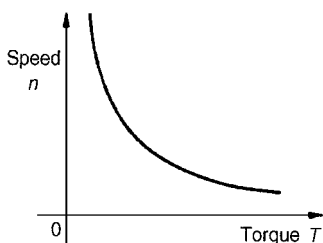

Figure 22.23
- (iii) The theoretical **speed/torque characteristic** may be derived from (i) and (ii) above by obtaining the torque and speed for various values of current and plotting the co-ordinates on the speed/torque characteristics. A typical speed/torque characteristic is shown in Fig. 22.23